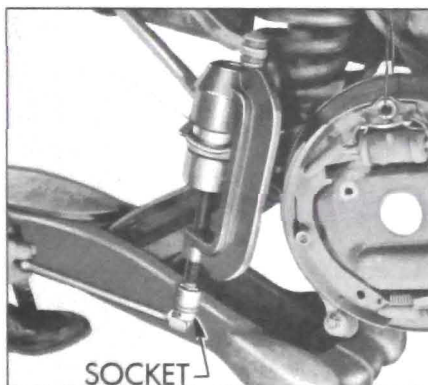

Figure 7-16—Installing Lower
2. With a suitable socket and handle force the ball joint into the lower control arm until it is fully seated. See Figure 7-16.